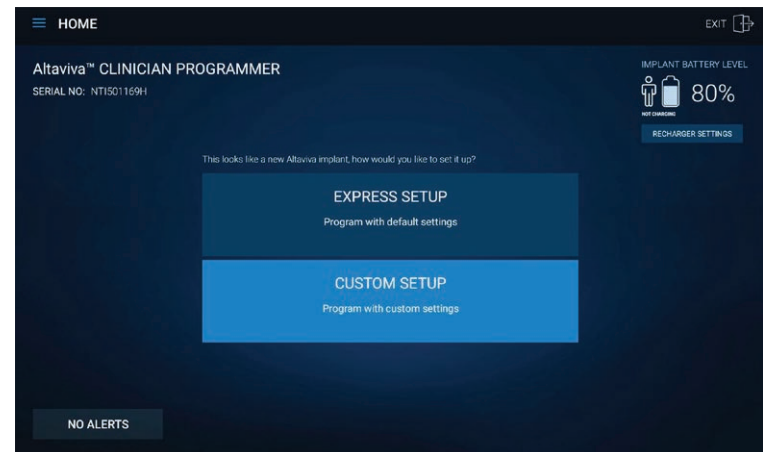

Figure 10. Home screen (serial number shown is for example only)
6. Once the app is connected, the Home screen will be displayed (Figure 10).